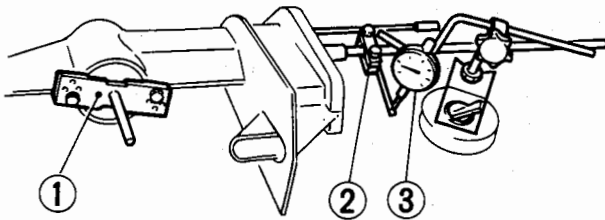

Fig. 75 Measuring the backlash
- 2) Make sure that the backlash of the bevel gears A and B is measured by means of the tool backlash measuring (special tool). (Fig. 75)